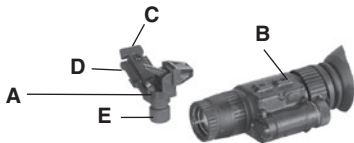

Figure 3.9
1. Attach the adapter (Figure 3.9, A) to the rail (B) of ATN NVM-14. Push the clip (C) and slide the rail of monocular into socket (D) of adapter. Push the clip until the adapter will lock the alignment groove in the monocular.
3. With this adapter you may see through the eyepiece using either right or left eye. To change the viewing eye, loosen the nut (Figure 3.9, E) and rotate the socket (D) 180 degrees. Tighten the nut (E) anew.